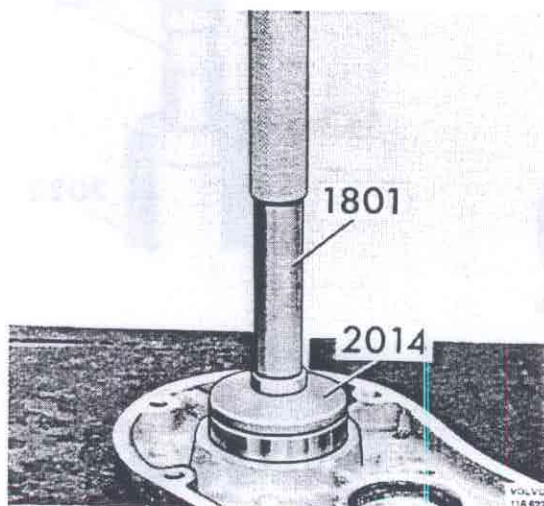

Fig. 48-21. Pressing in the bearing
3. Press the bearing into the housing using 1801 + 2014, see Fig. 48-21. Place the circlip which secures the bearing.